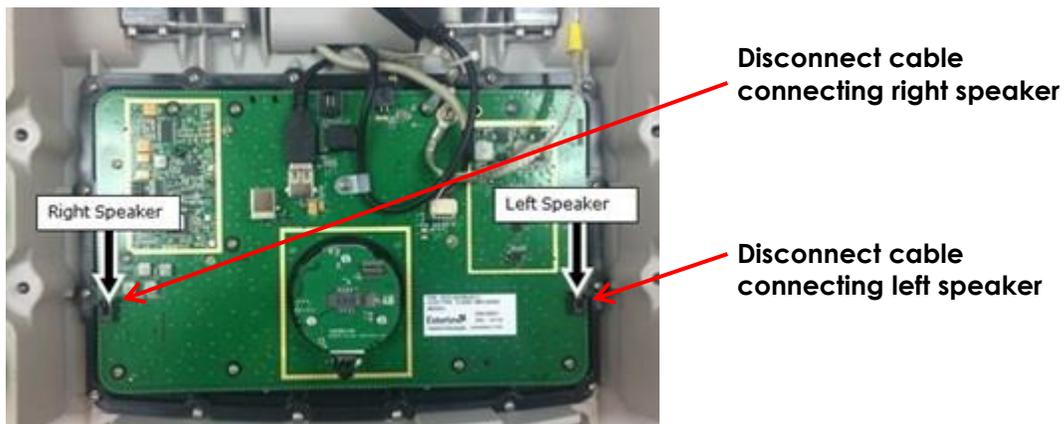

Figure 66: Control Panel PCB Assembly
5. Disconnect the speaker cables from the control panel PCB assembly (refer to Figure 66).